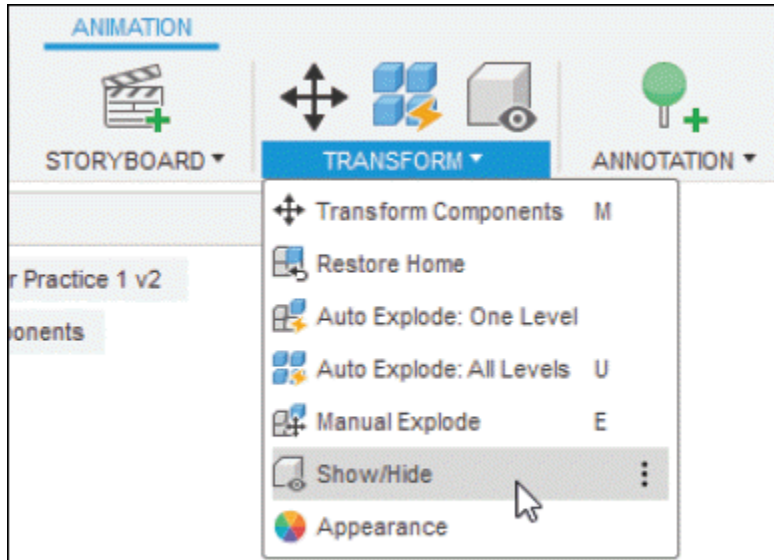

Figure-49. Show/Hide tool
- Now, click on the **Show/Hide** tool from **TRANSFORM** drop-down; refer to Figure-49. The selected component will be shown or hidden based on its condition.